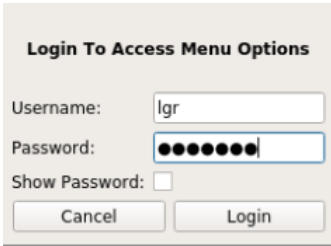

Figure 16 Login Dialog Box
- 2 For initial login, use the default Linux credentials for the username and password (Figure 16), as follows: